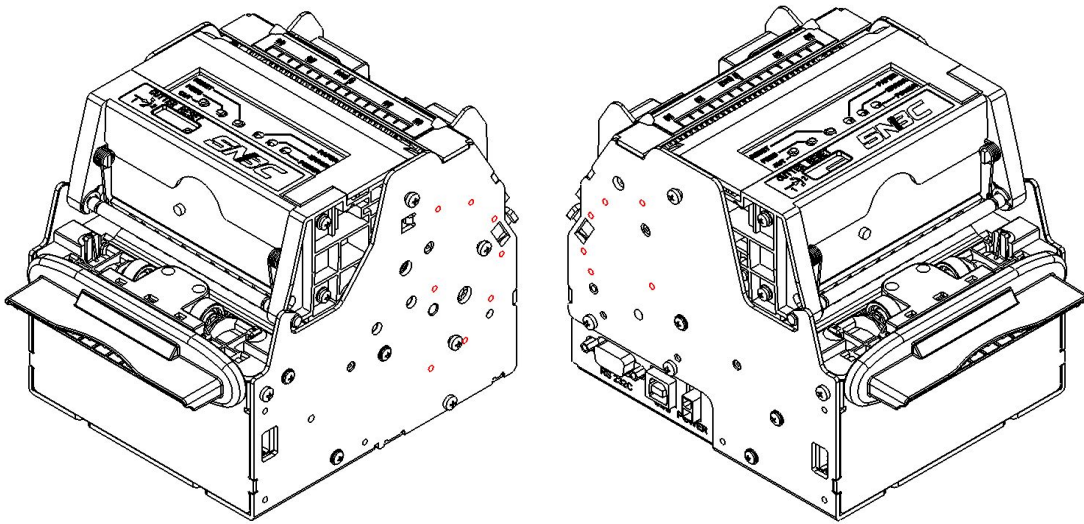

Figure 4.4-1 Grounding position
- 2) Fix the grounding cable to one of the fixing holes (14 pcs of M3 holes, which are installed on the no-installing side of printer paper holder as shown in figure 4.4-1) when installing the printer, and complete the connection of grounding cable.